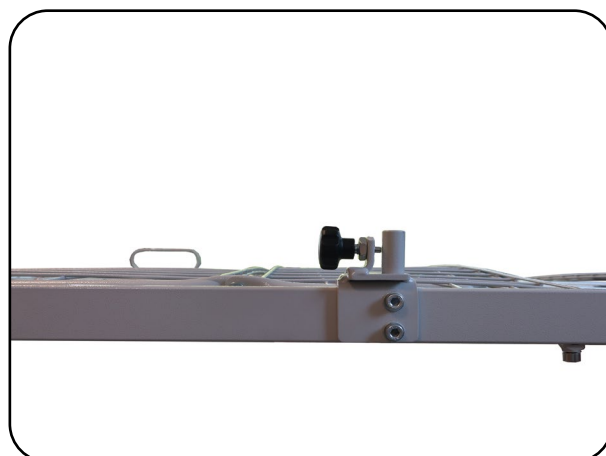

Fig. 6.4.03 – Side bar holder mounted
3. Attach the side bar holder in the threaded holes on the bed surface frame using the M8 x 16 cylinder head bolts with washers (Fig. 6.4.03).